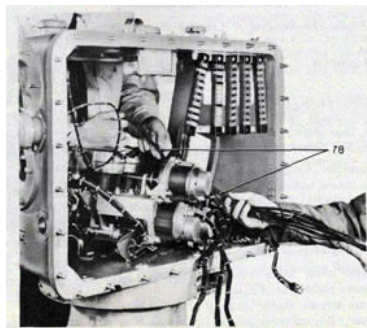

Figure 122-Loosening Main Cable Wires.
78. Loosen main cable wires from case terminal boards and pull main cables through transmitter grommets, then remove transmitter through front of case. See figure 122.